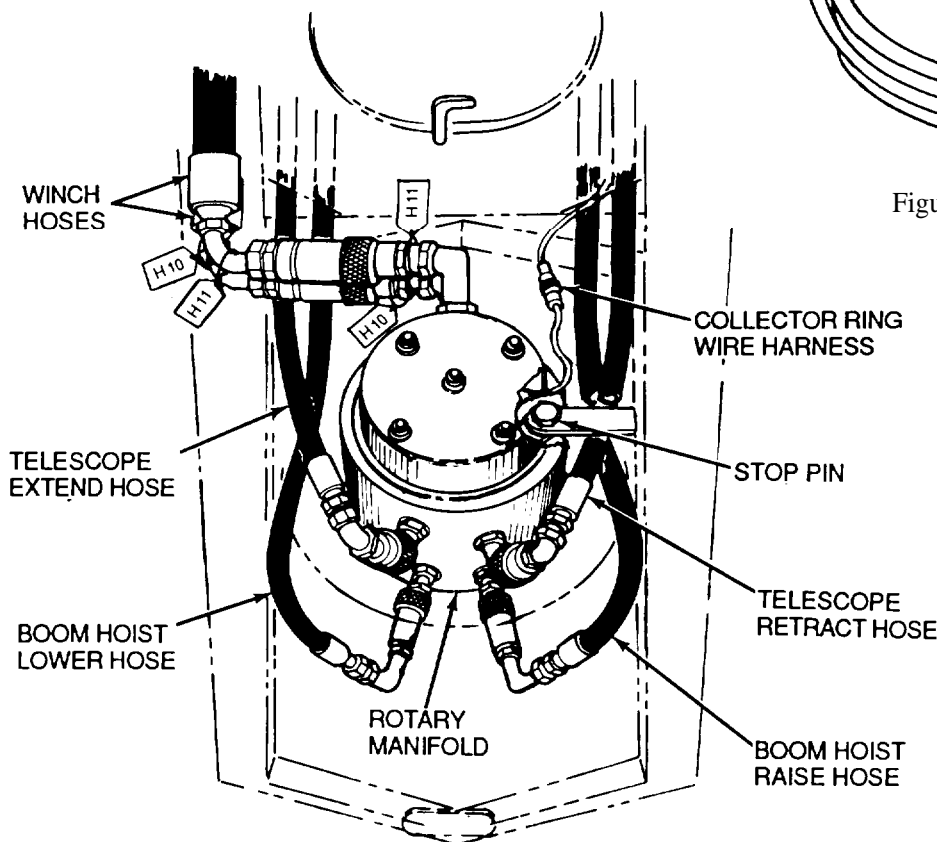

Figure 5-13. *Rotary Manifold Hoses*
- b. Disconnect two winch hoses, tagged H-10 and H-11 (Figure 5-13), attached to rotary manifold with quick disconnect fittings. These hoses come down from winch on